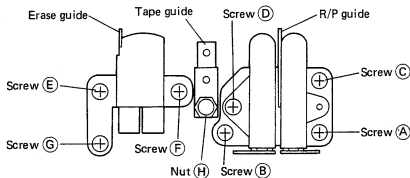

Fig. 4-2
CAUTION 1: Upon replacement of the record/repro head and/or the erase head, loosely tighten screws (A) - (G) (Fig. 4-2) then turn them one half back, before starting to perform the following steps. In addition, the procedures require the following materials:
- 注意. 1. 録・再ヘッド及び消去ヘッドを交換したときには図4-2のネジ(A)～(G)を軽く締め切って、その位置からそれぞれのネジを1.5回転緩めた状態で調整を始めること。又、この調整を行う為には次の治具が必要です。
7. Turn in and out the height adjustment screw C (Fig. 4-2) until jig B touches the tape guide lower flange.
13. Play the 315-Hz signal on the tape then the 6.3-kHz signal, to check that the outputs from channels 1 and 4 are in phase as seen on the scope. If necessary, adjust screw B (Fig. 4-2).